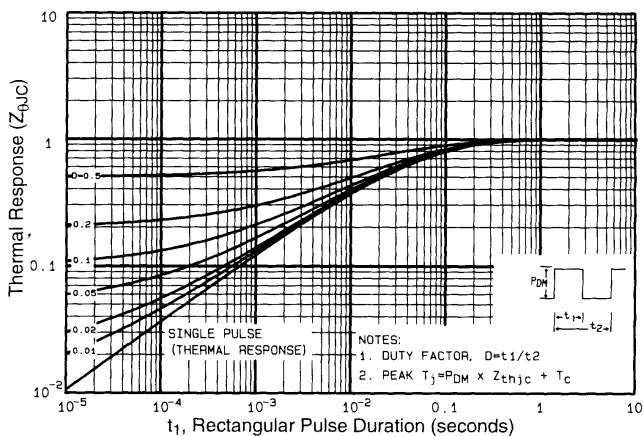

Fig 11. Maximum Effective Transient Thermal Impedance, Junction-to-Case
① Repetitive rating; pulse width limited by max. junction temperature (See Figure 11)
③ $I_{SD} \leq 51A$, $di/dt \leq 250A/\mu s$, $V_{DD} \leq V_{(BR)DSS}$, $T_J \leq 175^\circ\text{C}$